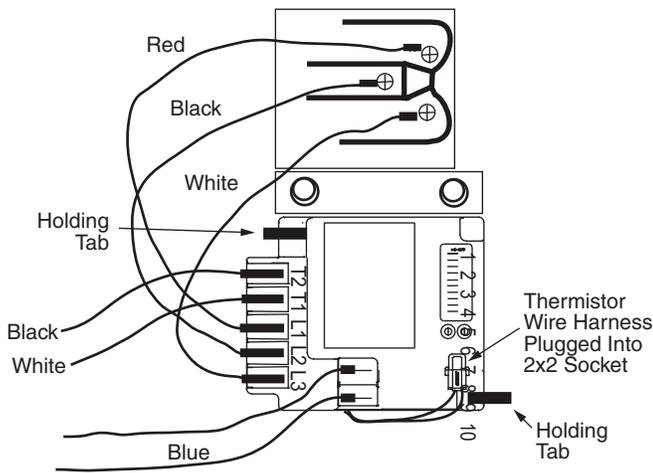

Fig. 67 — CoreSense Communication Module Mounting
3. Install the CoreSense module in the compressor terminal box as shown in Fig. 67, with the tabs holding the module in place. Route the thermistor wire harness as shown and plug the harness into the 2x2 socket on the CoreSense module.